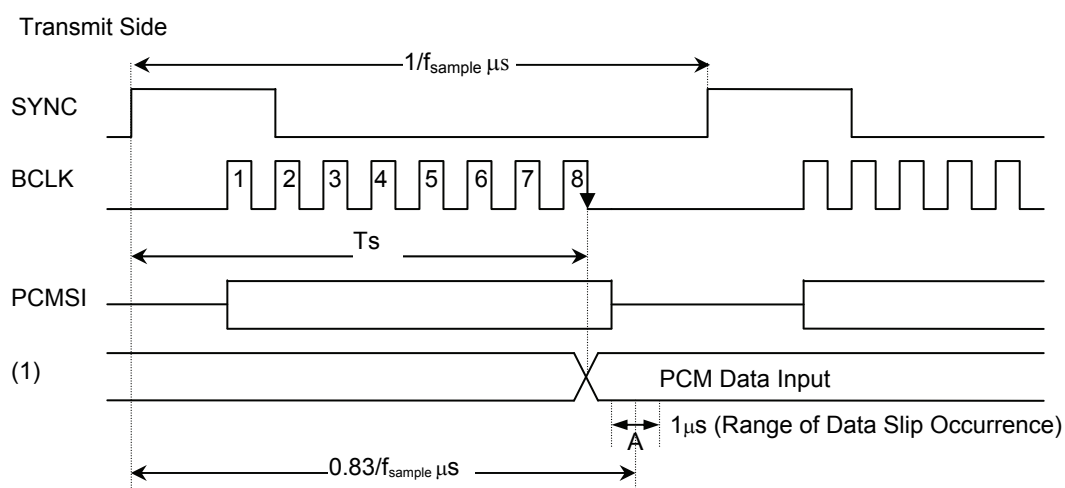

Figure 6
If Ts: PCM signal output (1) after serial/parallel conversion and A: internal latch timing in Figure 6 overlap, a data slip occurs.
2. When the ADPCM signal (IR) is captured